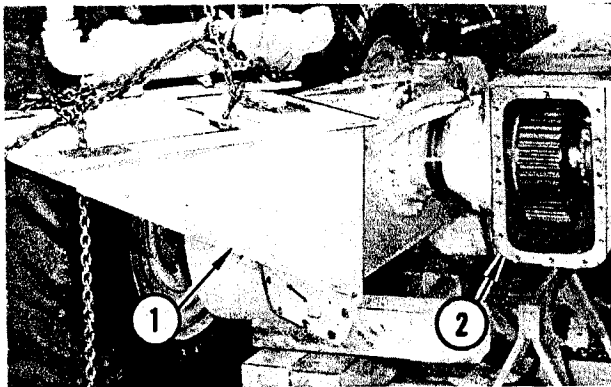

FIGURE 94. ENGINE SUPPORT REMOVAL
Attach sling and hoist to engine support. Remove eighteen stud nuts and lockwashers retaining engine support to final drive case. Remove support (1) and gasket (2), Figure 94. NOTE: The engine support also forms rear cover for final drive case.